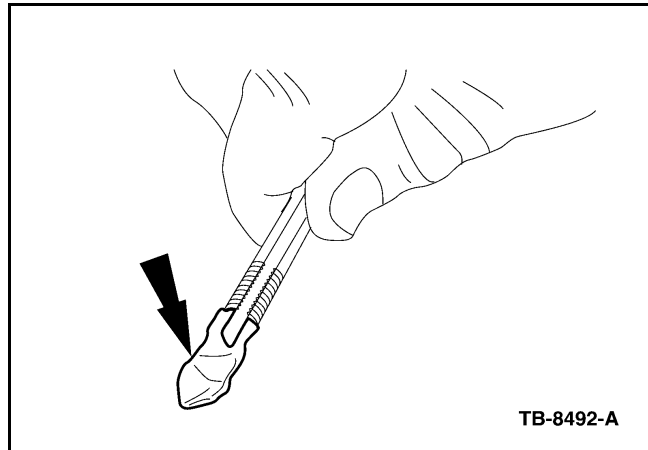

Figure 8 - Article 069-2008-1155
- a. Coat the end of the tap with general purpose grease. (Figure 8)